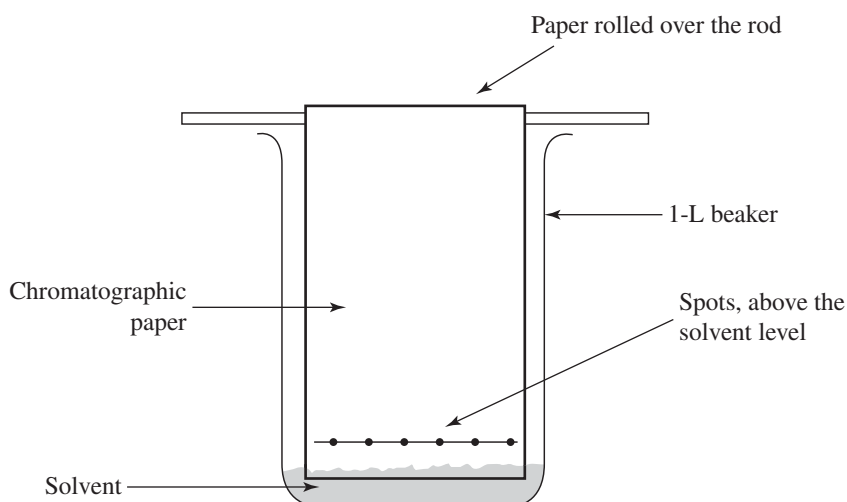

Figure 38.4
5. Pour about 15 mL of solvent mixture (butanol:acetic acid:water) into a large (1-L) beaker. Place a glass rod over the beaker. Using clear tape, affix the chromatographic paper to the rod so that when you lower the rod over the beaker, the paper will dip into the solvent **but the pencil marks and the spots will be above the solvent surface** (Figure 38.4). Cover the rod and beaker with aluminum foil. Place the beaker on a hot plate. Turn to a low setting (e.g., no. 2 out of 10 on the dial) and heat the beaker to about 35°C. Allow the solvent front to advance at least 6 cm (it will take 40–50 min.), but do not allow it to get closer than 1 cm from the top edge. Watch the temperature and make sure it does not rise above 35°C.